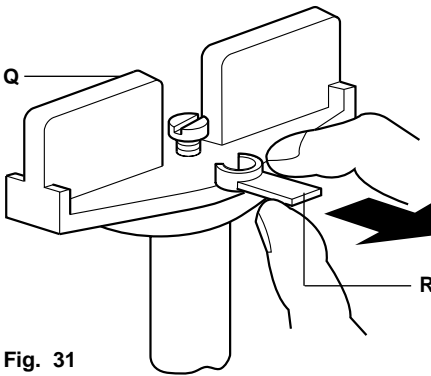
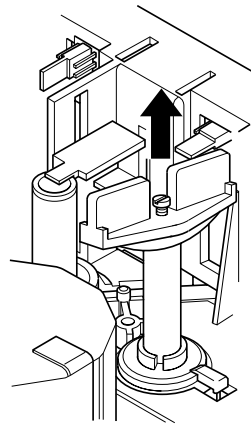

Fig. 31
Fig. 32
Remove the locking piece (**R**) Fig. 31 and pull the spring handle (**Q**) upwards and release (see Fig. 32). Retain the locking piece for further use.
4. Rotate the spring handle **Q** (Fig. 31) to achieve the middle position of the actuator travel.